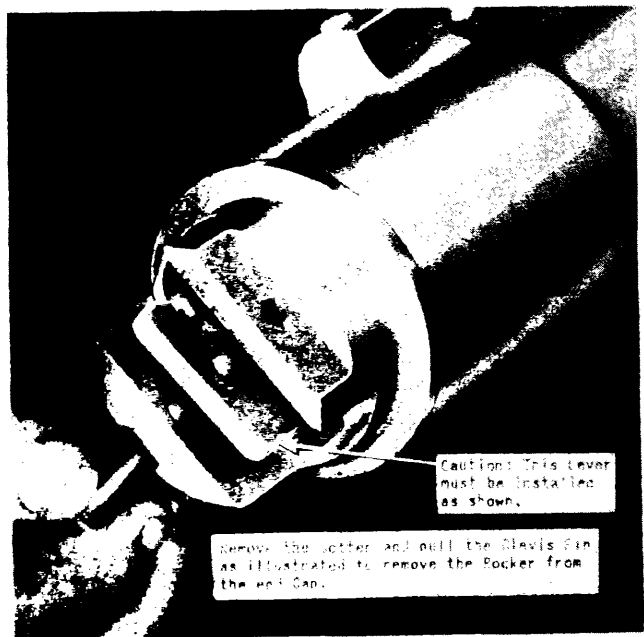
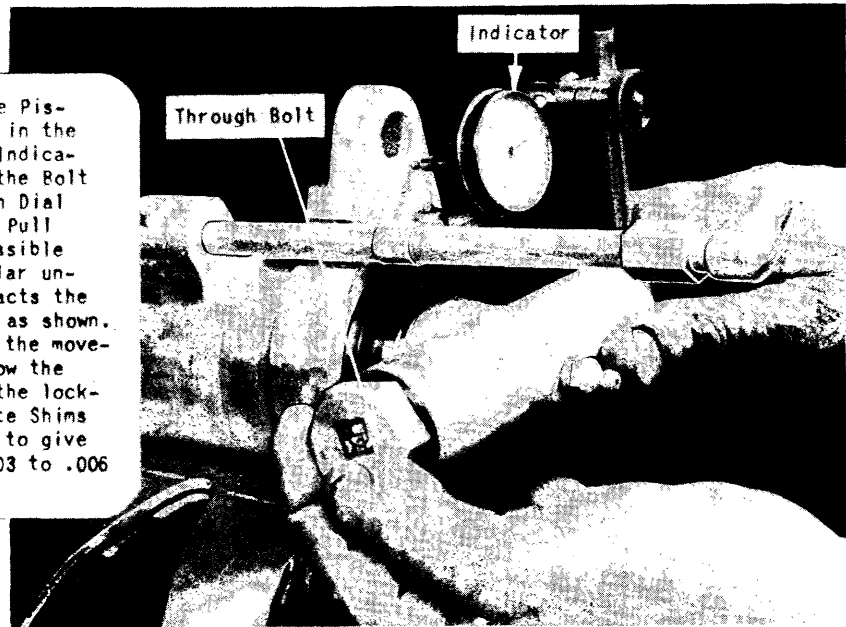

Figure 173 - Removing Rocker from Cap
Figure 183 - Testing Backlash of Piston
(1) Remove the length of pipe extending to the forward end of the cylinder so that the cylinder may be placed in a wooden block clamp.
(2) Place the cylinder in a wooden block clamp and secure the clamp in a vise.
(3) Remove the cotter and pull the clevis pin retaining the rocker in the cap assembly. (See figure 173.)
(10) Install the lever on the cap with the clevis pin and safety the pin with a cotter. This lever must be installed as shown in figure 173, do not reverse.
(11) Release the piston from the wooden clamp and install the hydraulic line assembly to the forward end of the cylinder.
(12) Insert the cylinder in a vise with aluminum covered jaws. (See figure 183.) Replace the through bolt in the end assembly and attach an indicator. (See figure 183.) Be sure that the face on the dial is turned so that the indicator hand is at "ZERO." Pull the piston end out as far as possible and turn the ball and collar on the indicator to contact the cylinder. The indicator should show the extent of movement of the locks in their locked position. The locks should have a backlash of .003 to .006 in their locked position. Shims can be added or eliminated from the cap and the bearing to produce the required lock clearance in the locked position.
(13) Test the retracting strut for leaks before installing in the airplane. The strut must show no leaks at 2500 pounds per square inch. If the test shows no evidence of leakage the strut is ready to install in the wing.